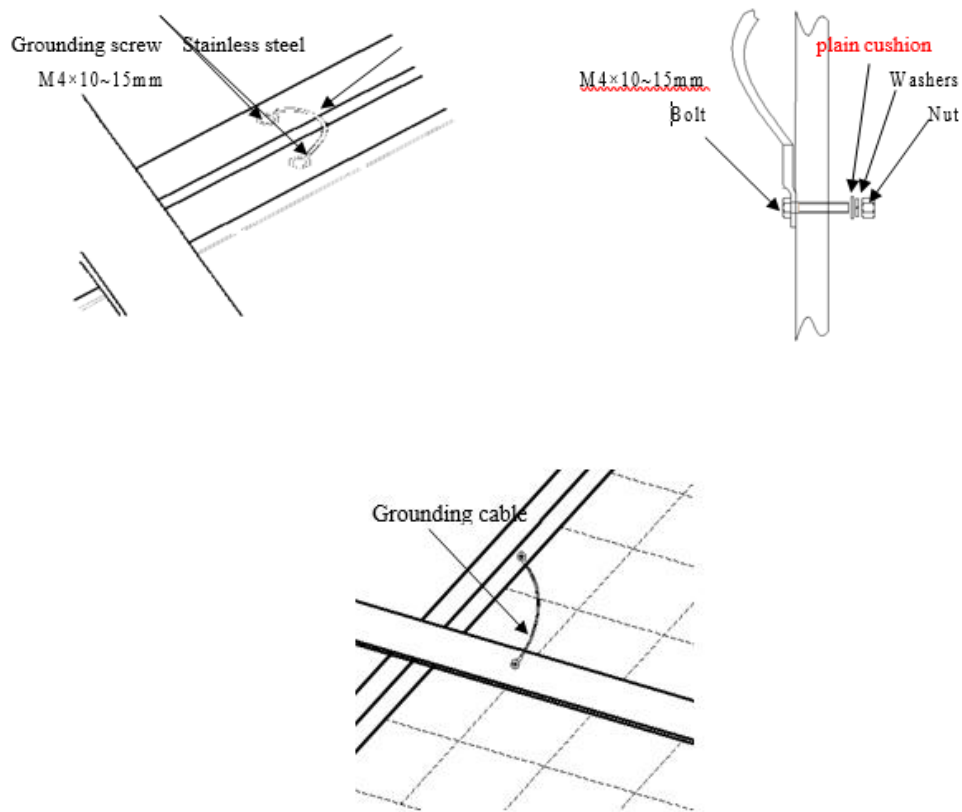

Figure 3. Illustration of grounding
- 3) Modules should not be piled up together directly without any protection. In order to prevent the frame and glass from scratch, it need to apply specialized plastic or paper angle to separate the modules as showing in following Figure 3. The quantities of one pallet modules should not exceed 20.
- 3) The modules and support could be grounded by grounded holes, to enhance the insulation effect. Detailed could be found in the following figure (Figure 3).